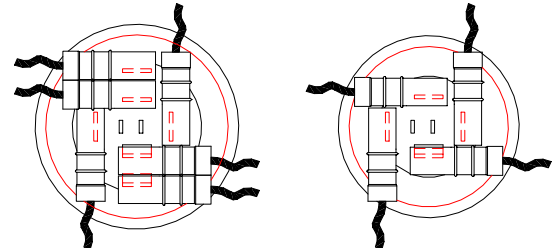

Fig 4 Wire Configuration for Right Angle Terminals
6. The push on terminals (right angle, straight) supplied with the modular connector series use an improved double wall barrel design vs. typical single wall barrel. The extra strength in the barrel improves electrical conductivity and wire grip. Some crimp tools do not have enough leverage to securely crimp this terminal which could cause poor connections. The shape of the crimp die also affects the quality of the crimp, especially for the smaller wire sizes. A recommended crimp tool manufactured by Thomas & Betts is their model #WT112M. The right angle terminals can be configured on the 830 and 630 models as shown. <Fig 4>